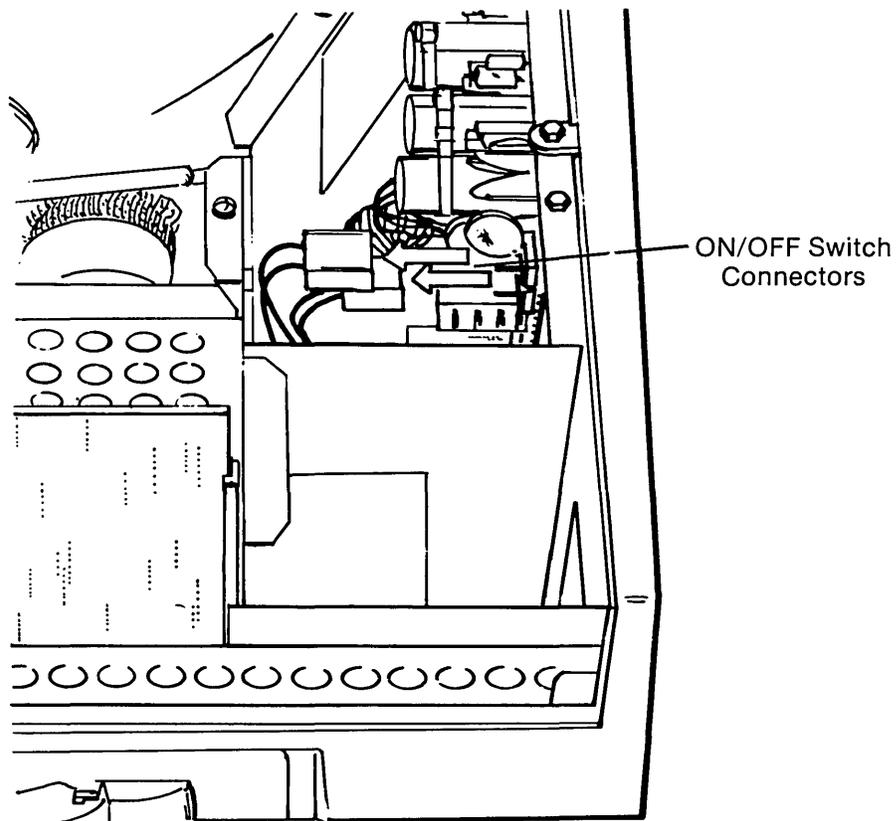

Figure 4-11. Removing ON/OFF Connectors From Power Supply Board.
Unplug the two (2) connectors from the top of the power supply board (see Figure 4-11).